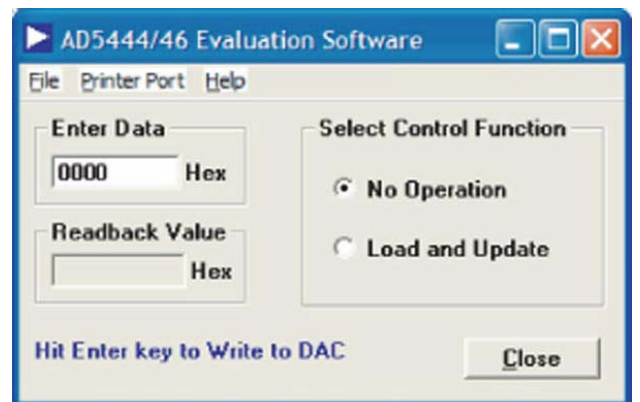

Figure 3. Main Window
6. Click **OK** to open the main window with drop-down menus (**File**, **Printer Port**, and **Help**), as shown in Figure 3.